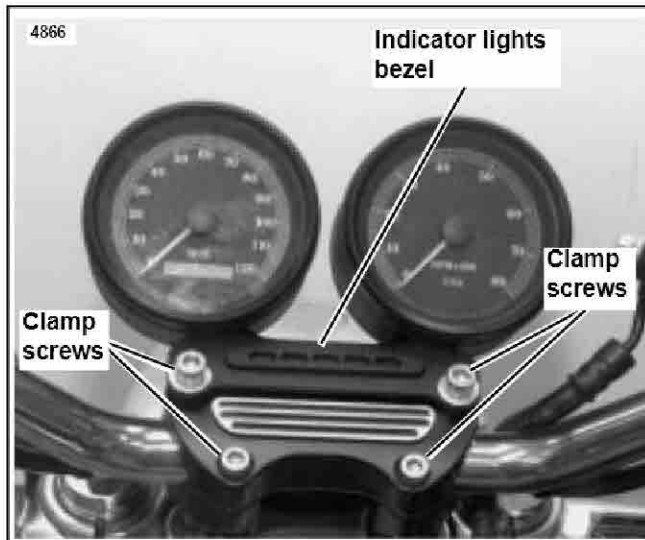

Figure 5. Handlebar Clamp Screws
- See Figure 5. Remove the screws that secure the gauge bracket to the handlebar clamp.
- See Figure 5. Place the indicator light bezel and color strip on front of gauge bracket. Be sure color strip is positioned on locating pins.
See Figure 5. Place speedometer/tachometer bracket in position and install screws snugly enough to hold handlebars in place. Do not tighten at this time.